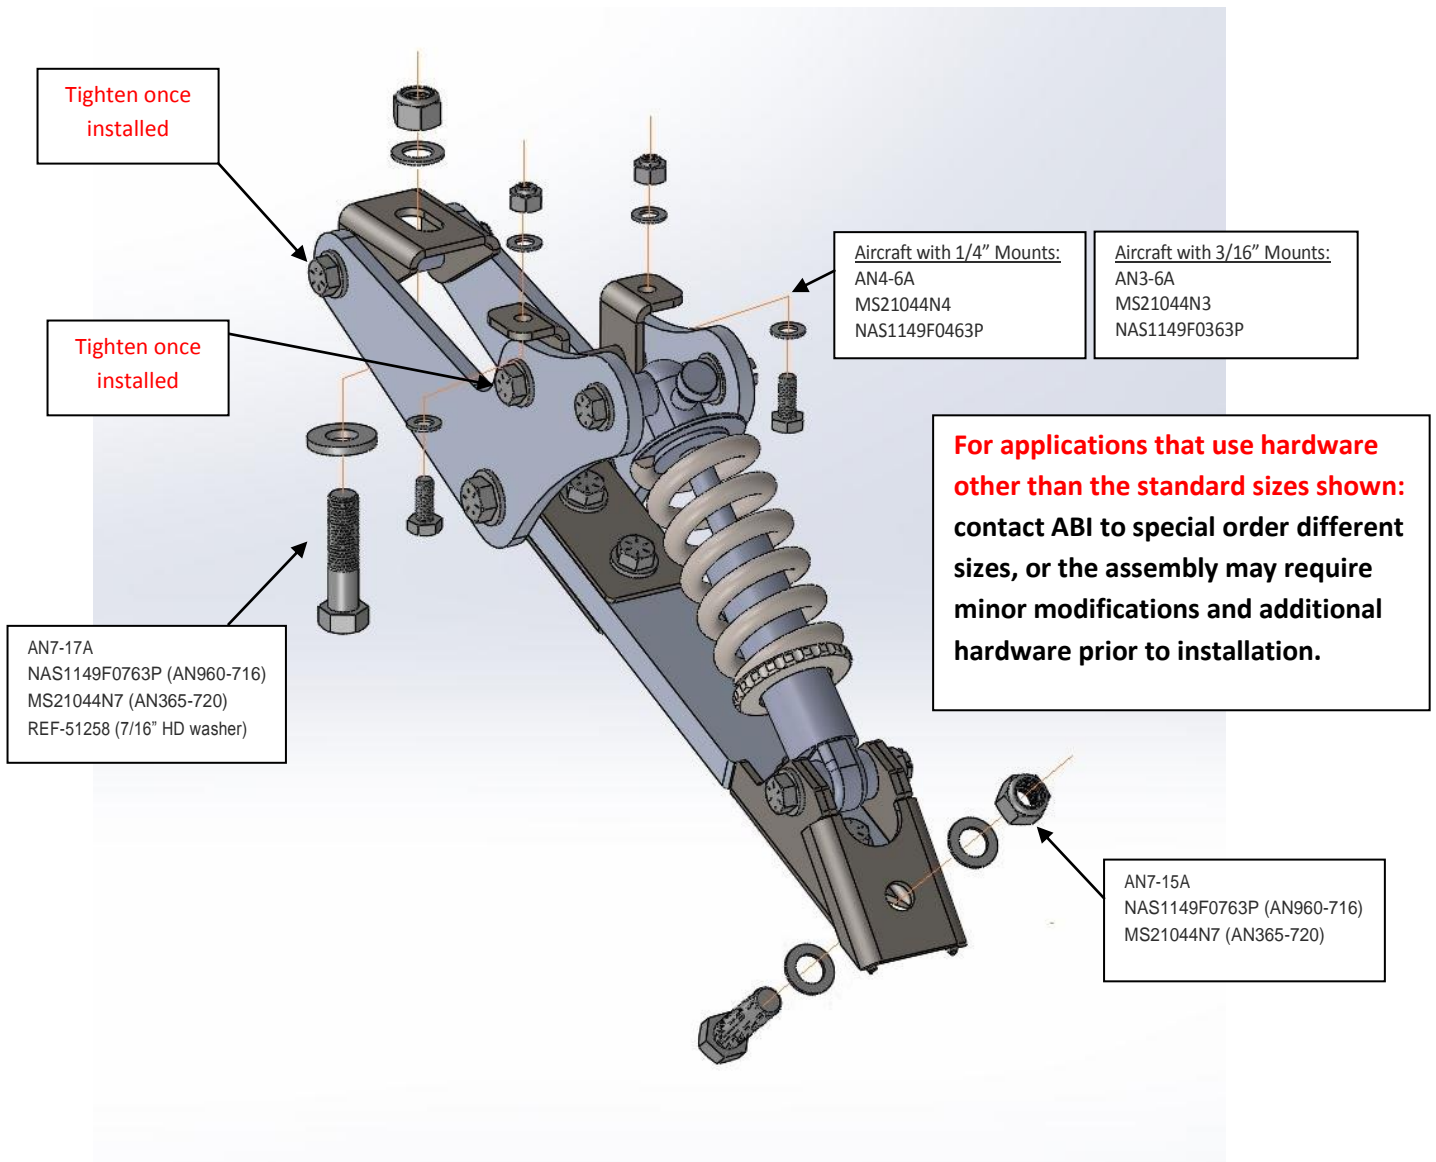

Figure 2: T3 setup, with optional installation hardware
- G) Install the T3 assembly in place of the leaf spring in reverse order to steps E and F. Replace hardware with hardware supplied in the optional installation kit, or your own new hardware of appropriate sizes (see Figure 2).
- H) Tighten the front and rear fuselage attach bracket bolts on the T3 Assembly (see Figure 2). These bolts are shipped with minimum torque, to allow for the free rotation of the attach brackets for easier fit-up and hole alignment on the fuselage.